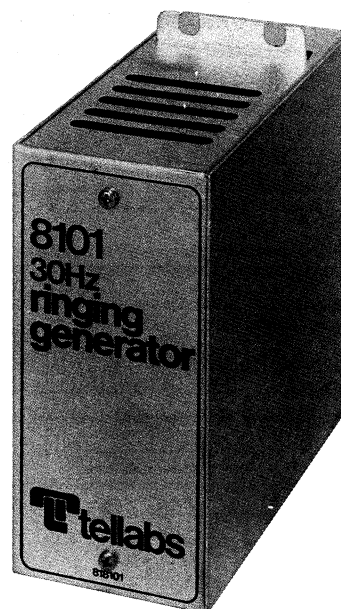

figure 1. 8101 Ring Generator
1.01 The 8101 Ringing Generator (figure 1) provides 100Vac (nominal) quasi-sine-wave ringing voltage, at 30Hz, from nominal 117Vac, 60Hz input power. The 8101's 5-watt ringing output can drive up to five high-impedance telephone ringers simultaneously.